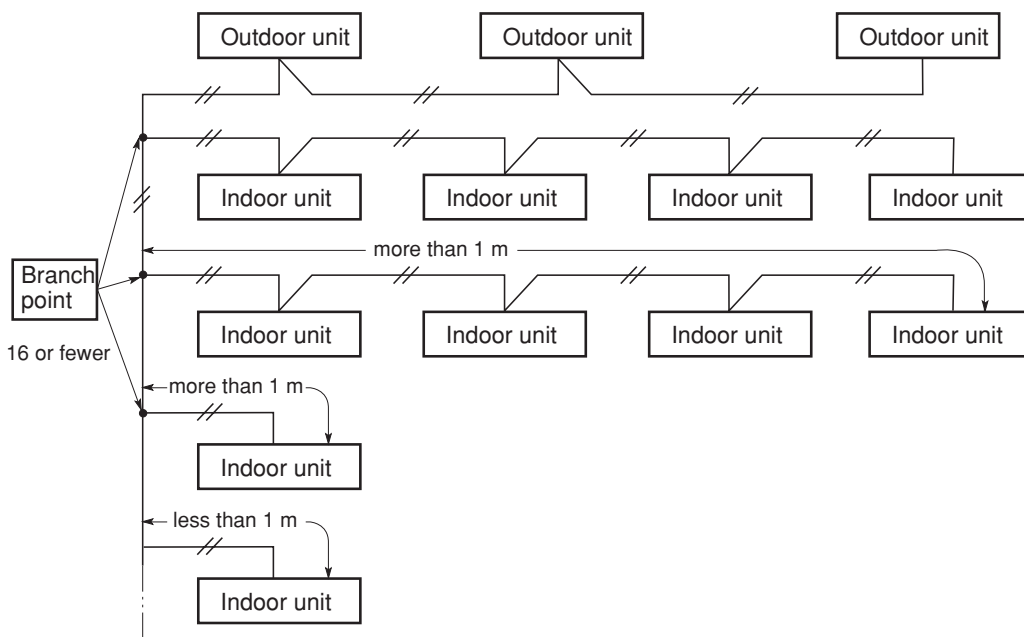

Fig. 3-3
- (4) If branching the inter-unit control wiring, the number of branch points should be 16 or fewer. (Branches less than 1 m are not included in the total branch number.) (Fig. 3-3)